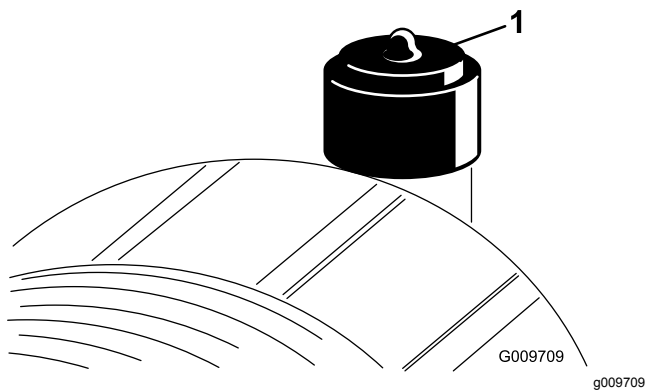

Figure 80
Service the air-cleaner filter only when the service indicator (Figure 80) requires it. Changing the air filter before it is necessary increases the chance of dirt entering the engine when you remove the filter.
2. Reset the indicator (Figure 80) if it shows red.